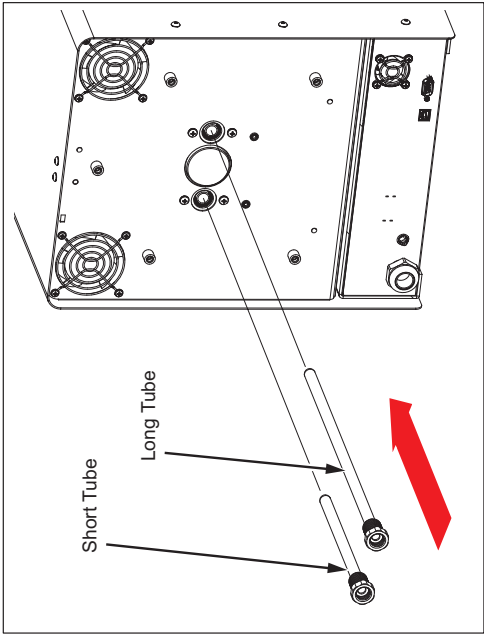

Figure 7. Short Tube and Long Tube Insertion
- Short tube in the left side. See Figure 7.